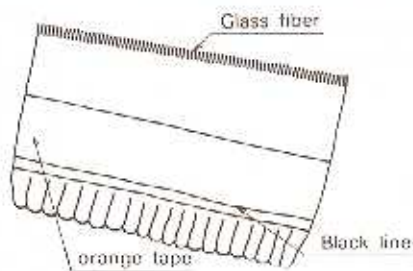

Fig. 18
- (9) Remove the old wick from wick holder assembly.
- (10) The upper part of the wick is made of glass fiber and does not burn. Other portion of the wick is made of cotton. The orange tape is for fixing the wick to the wick holder and the black line marked on the tape is for positioning (Fig.18).